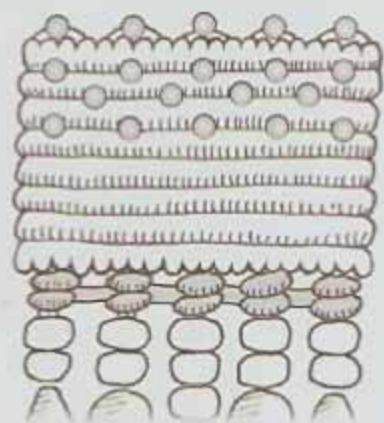

Fig. 17
Variation 2 (Figure 17):
2. In place of the embroidered star pattern, embellish the knotting by sewing beads onto the surface. A sturdy beading needle and regular beading thread can be used for this purpose. Figure 17 shows seed beads sewn in between the rows in a staggered "Starry Night" pattern.